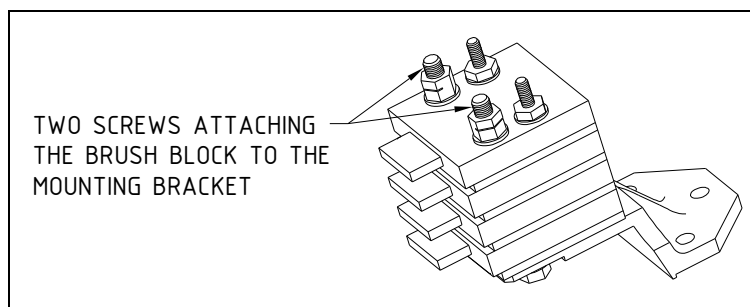

Figure 5-5
- 1) Loosen two screws attaching the brush block to the mounting bracket. Refer to Figure 5-5.